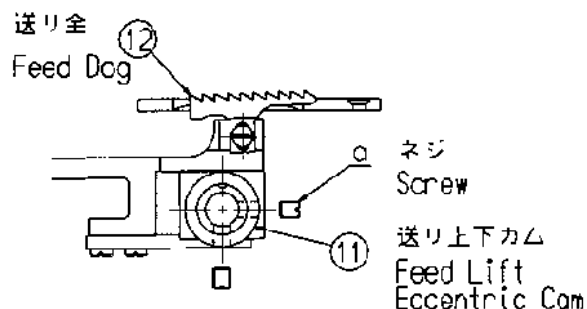

Fig.8
Loosen set screw of Feed Lift Eccentric Cam ⑪ of Fig.8, and place eccentricity of Feed Lift Eccentric Cam ⑪ at its highest position, or Feed Dog ⑫ to its maximum height, when Needle Bar ⑩ is in highest position. Firmly tighten set screw (a) after adjustment.
針棒⑩が最も上がったとき、Fig.8 で示すように、送り上下カム⑪のエキセン位置が一番高い所、つまり送り金⑫が針板上面より一番高い所で、送り上下カム⑪のセットネジ a を締め付けてください。